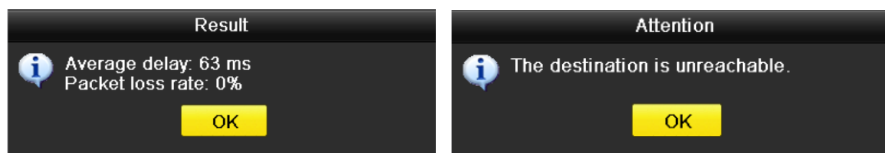

Figure 13-25 Testing Result of Network Delay and Packet Loss
Step 4 Click **Test** button to start testing network delay and packet loss. The testing result pops up on the window. If the testing is failed, the error message box will pop up as well. Refer to Figure 13-25.